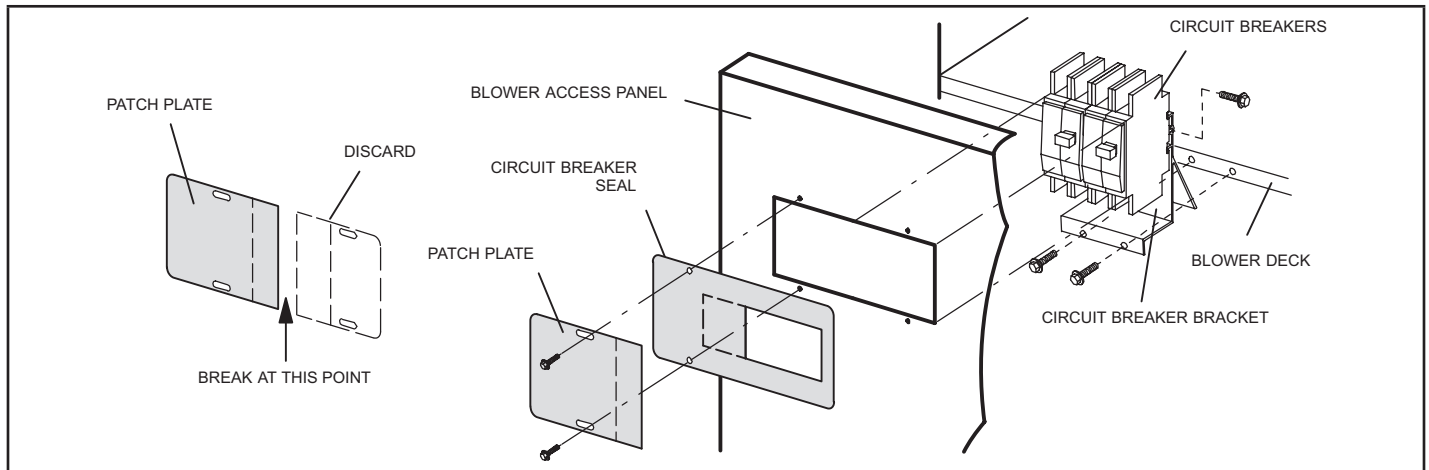

FIGURE 4. Circuit Breaker Seal and Patch Plate Installation
1 - Install the circuit breaker on the air handler deck flange as illustrated in figure 4. Use the provided six screws to secure the circuit breaker.
- 7 - Choose the appropriately sized adhesive-backed circuit breaker seal and remove any perforated sections (if needed). Apply the seal to the outside of the air handler access panel so that the seal is snug around the circuit breakers (see figure 4).